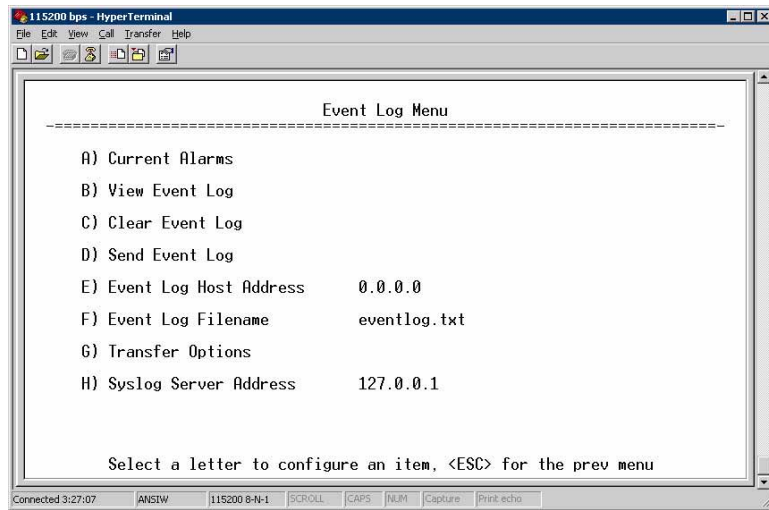

Figure 3-74. Event Log Menu
- ¥ **Event Log** □ Access this menu for managing the unit's operational activities log. (See Figure 3-74 on Page 104 for details.)